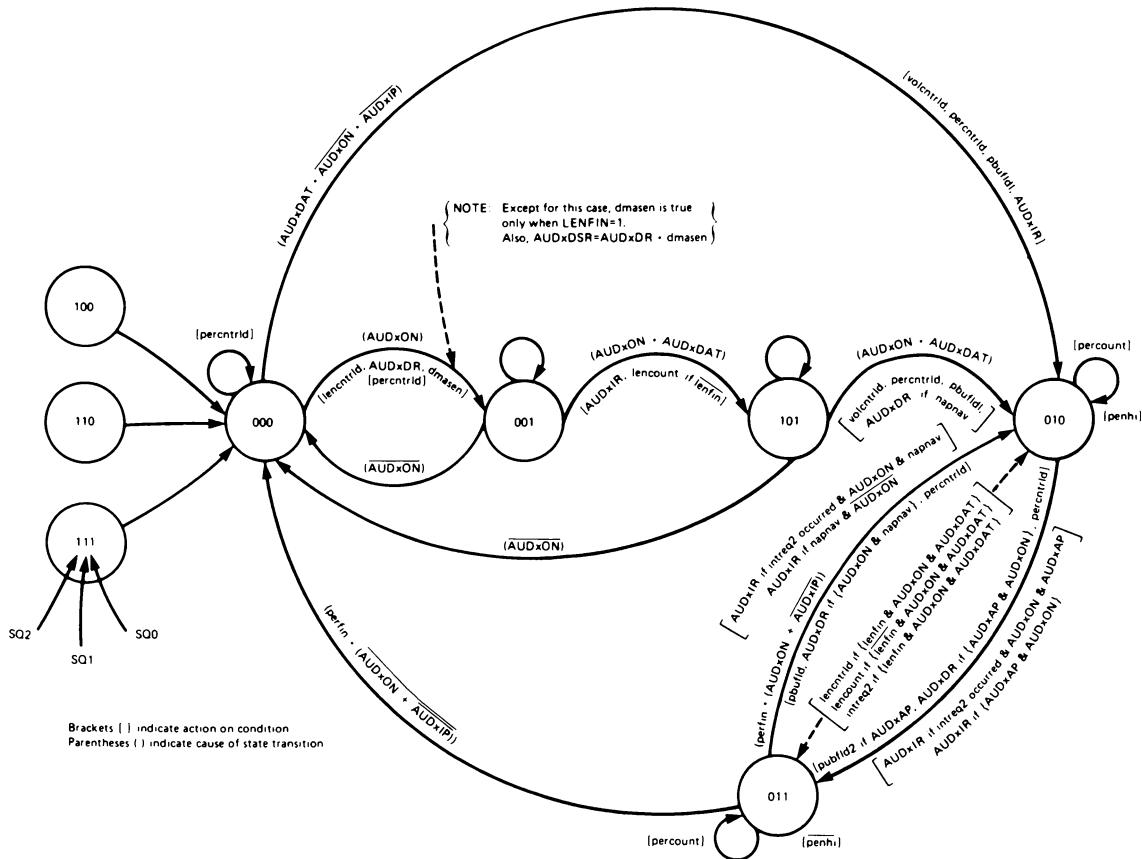

Figure 5-8: Audio State Diagram
For an explanation of the various states, refer to Figure 5-8. There is one audio state machine for each channel. The machine has eight states and is clocked at the clock constant rate (3.58 MHz NTSC). Three of the states are basically unused and just transfer back to the idle (000) state. One of the paths out of the idle state is designed for interrupt-driven operation (processor provides the data), and the other path is designed for DMA-driven operation (the "Agnus" special chip provides the data).